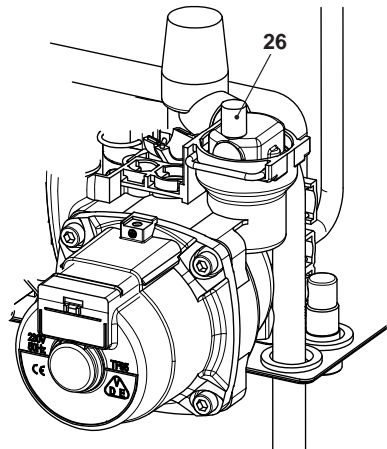

Fig. 9.6
- To make draining easier, lift the plug 26 of the automatic relief valve in Fig. 9.6.